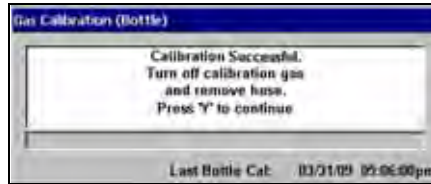

Figure 4-28 Sample Gas Calibration (Bottle) results display
A test results message displays when the Gas Calibration process is complete (Figure 4-28).
- Follow the on-screen instructions to continue (Figure 4-28).